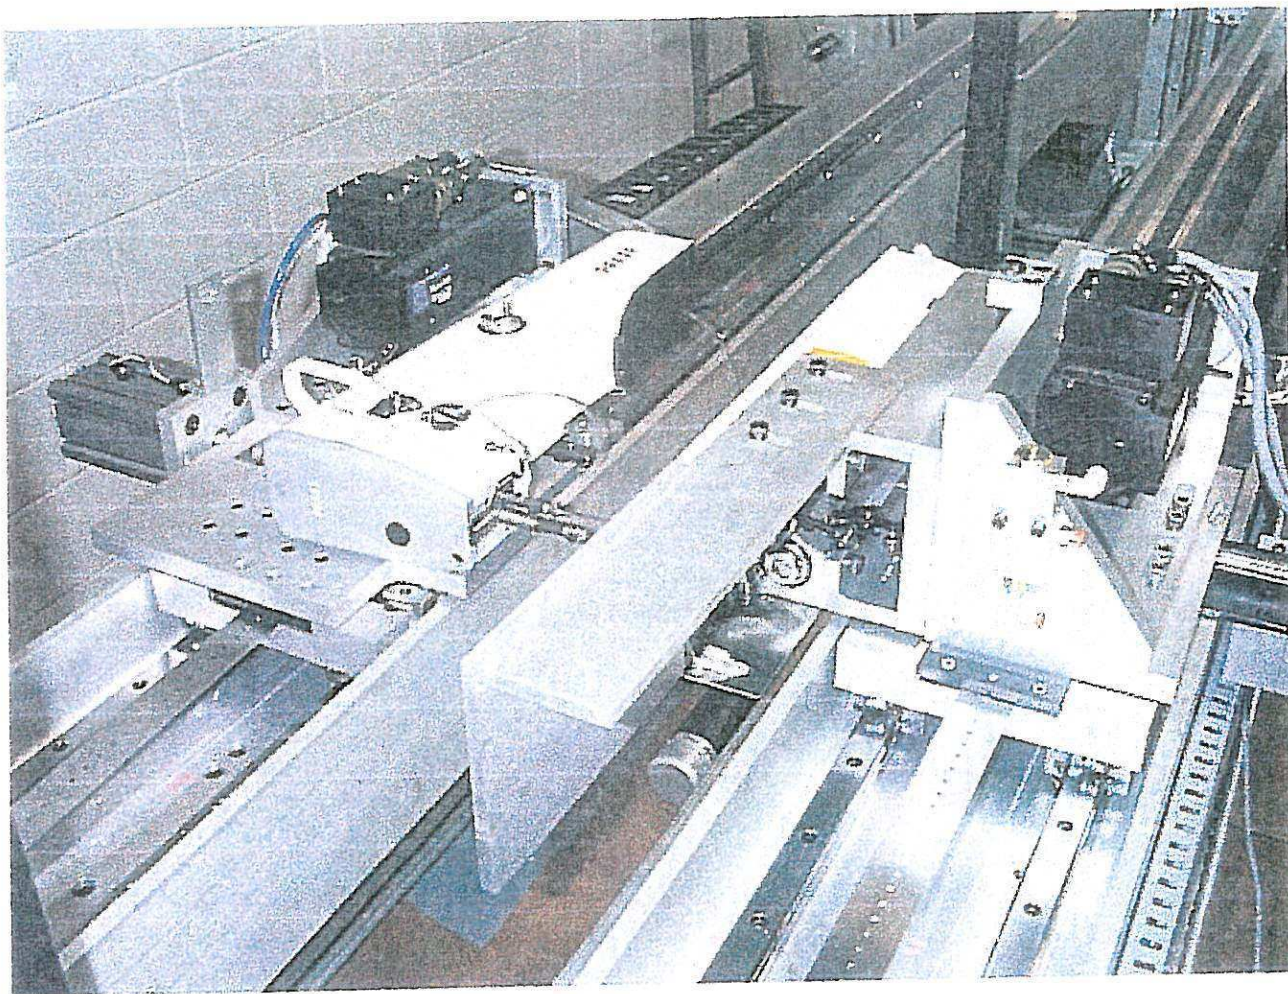
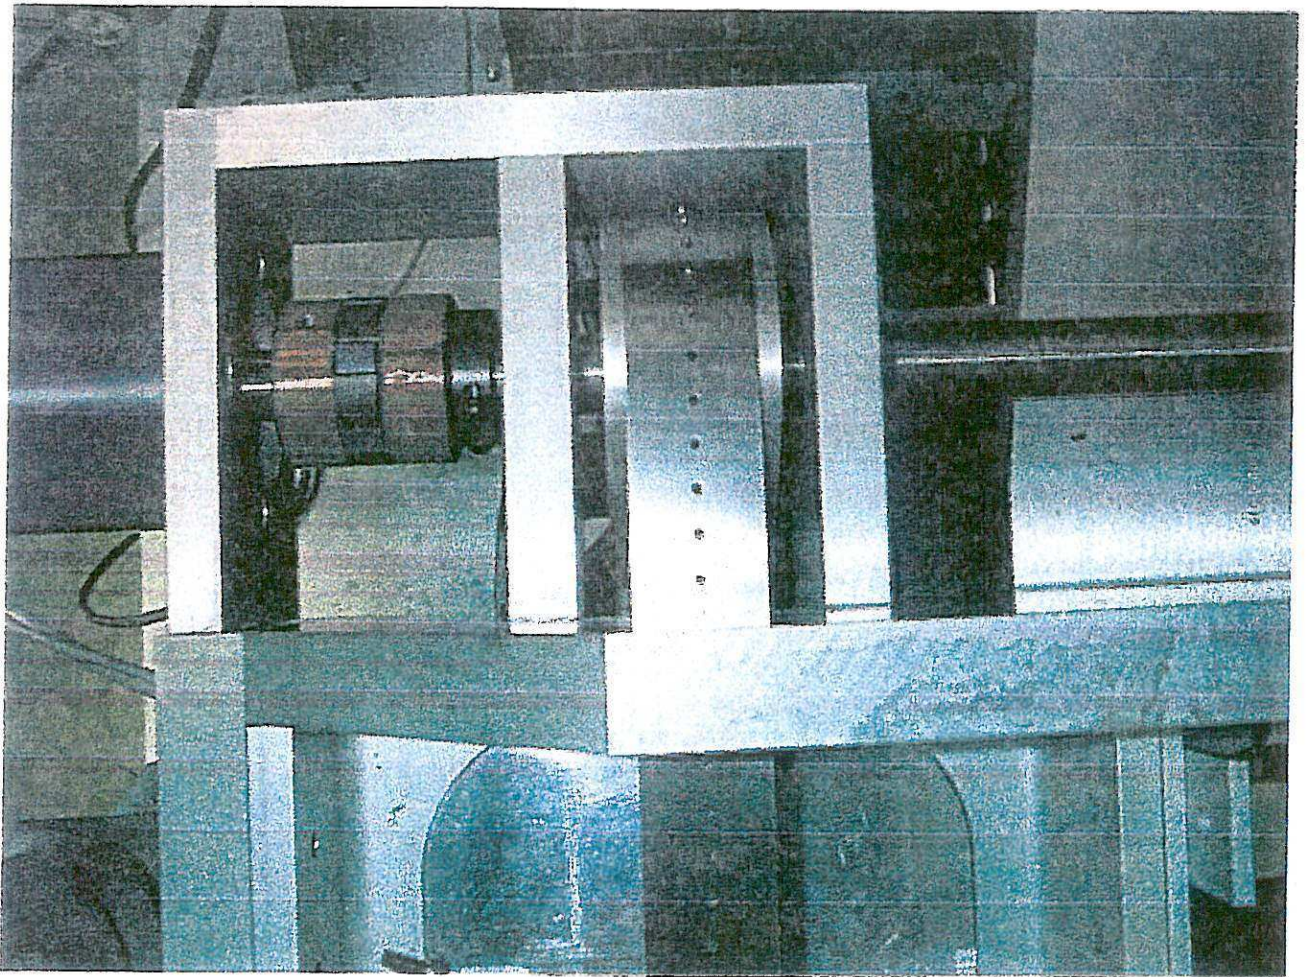
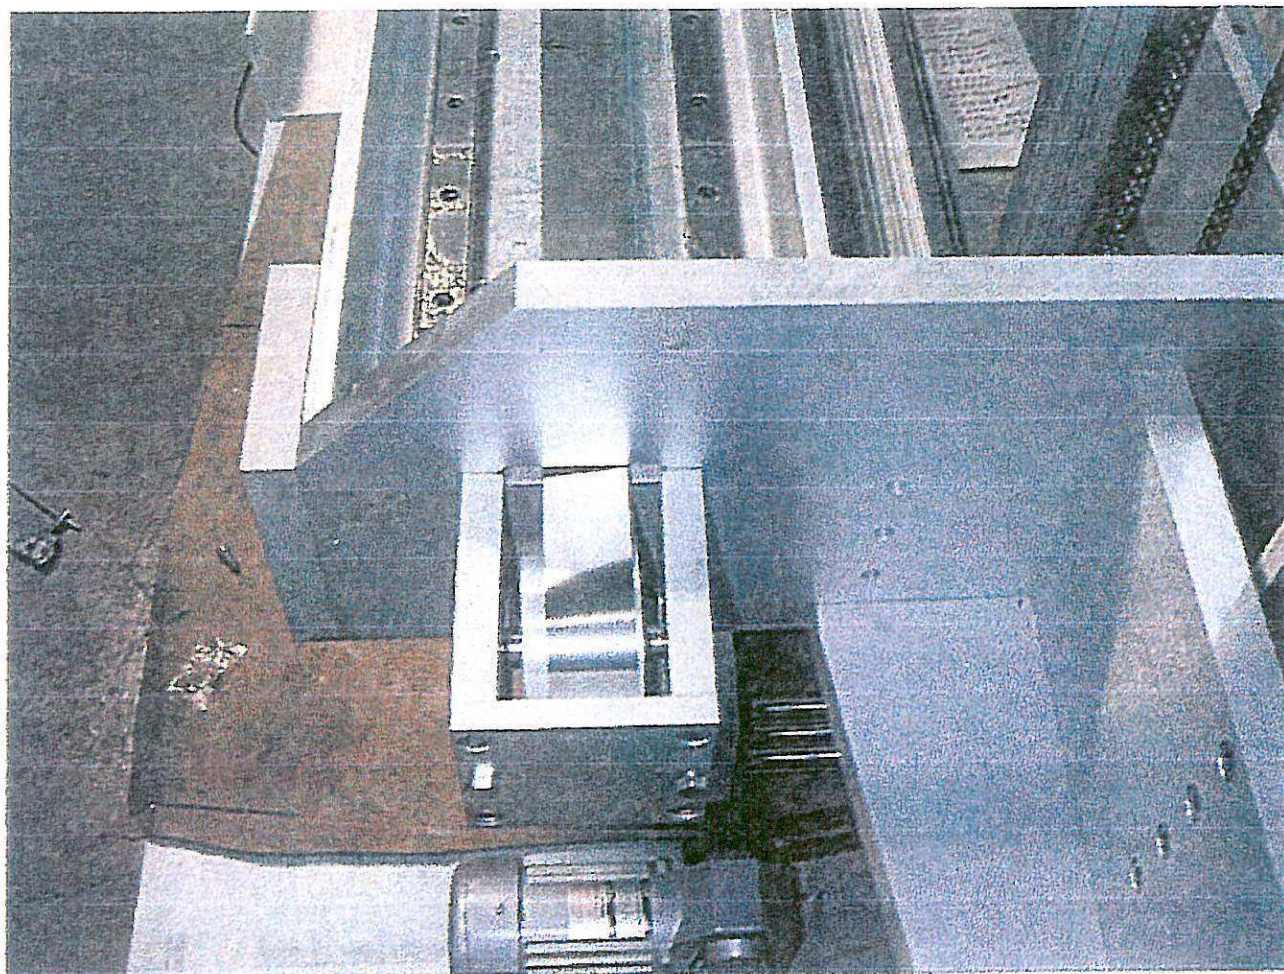
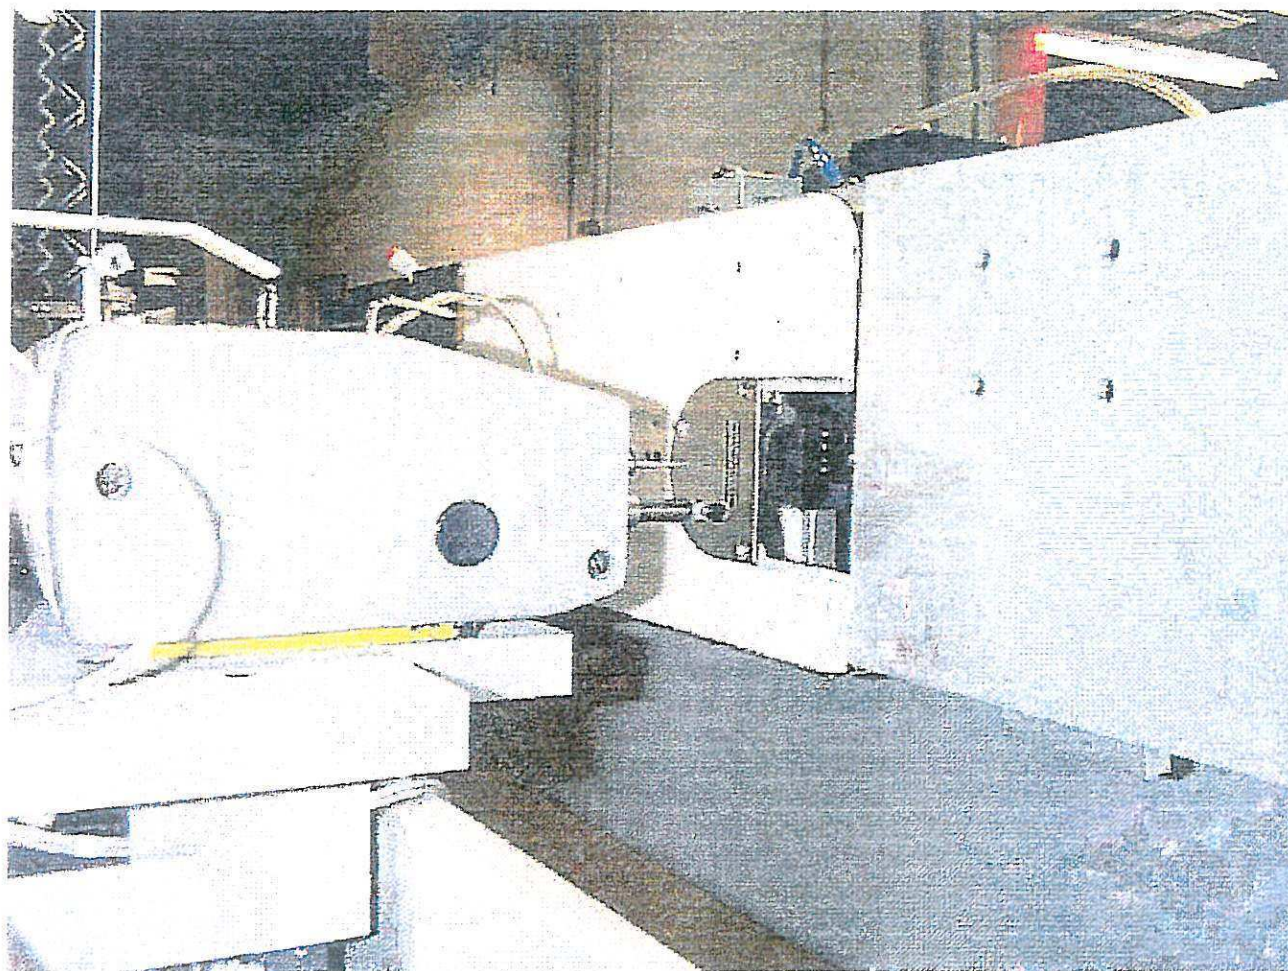

FIG. 7A
FIG. 7C
FIG. 7B
FIG. 7D
THE FOLLOWING PROCEDURE WILL INVOLVE ACCURATE TENSIONING AND ALIGNING OF STEEL TIMING BELTS. ON A COMMON DRIVE, THE UNIT LOAD LEVEL AND EQUAL TENSIONING BETWEEN TWO STEEL TIMING BELTS ARE THE MOST IMPORTANT VARIABLES WITH RESPECT TO MECHANICALLY SLAVING SEW HEAD ASSEMBLY TO SEW BASE ASSEMBLY, SEE FIG. 7A. THIS DESIGN ENSURES THE SYSTEM TO BE WITHIN  $\pm 0.001$  IN. DURING NORMAL ACCELERATION AND DECELERATION MOTION. FURTHERMORE, ANOTHER IMPORTANT VARIABLE IS ALIGNMENT OF CENTER LINE OF STEEL BELT TO IDLER PULLEY CENTER LINE, SEE FIG. 7B AND 7C. FOR TENSIONING LAYOUT, SEE FIG. 7D.
- 1- INSTALLING NEW STEEL BELT REQUIRES THE INSERTION OF THE PUNCHED HOLES SECTION OF BELT INTO RIGHT SIDE OF SEW HEAD ASSEMBLY. MAKE USE OF TWO 1/4-20 x 3/4 SHCS AND ONE 6-32 x 1/2 SHCS TO COUPLE BELT TO SADDLE PLATE. SEE FIG. 7A.
- 2- FEED THE STEEL BELT OVER THE DRIVE PULLEY IN BETWEEN THE SLOTS MACHINED ON THE SIDE PLATES. ENSURE THAT THE BELT IS FED THROUGH THE TOP SLOT FIRST, THEN OVER THE TOOTHED PULLEY; FINALLY, THROUGH BOTTOM SLOT. THEN FEED THE BELT THROUGH OTHER END BOTTOM SLOT, OVER THE IDLER PULLEY AND THROUGH TOP SLOT. INSERT THE NON-HOLE PUNCHED END INTO LEFT HAND SIDE OF SEW HEAD ASSEMBLY. SEE FIG. 7B AND 7C. NOTE THAT BOTH STEEL BELTS HAVE AN ARROW MARK ON THEM. THESE ARROWS MUST POINT TO SAME DIRECTION. THE TWO SIDES OF A STEEL BELT ARE NOT EQUAL IN LENGTH DUE TO HAVING A PROFILE OF A CONE AND NOT A PERFECT CYLINDER.
- 3- BEFORE PERFORMING STEP #2, ENSURE THAT THE IDLER PULLEY'S TWO 5/16-18 HEX HEAD BOLTS ARE COMPLETELY LOOSE. THESE BOLTS ARE DESIGNED FOR TENSIONING THE SYSTEM. ALSO, MAKE SURE THAT BELT CENTER IS IN LINE WITH IDLER PULLEY CENTER. SEE FIG. 7B.
5- AT THIS POINT, ENSURE THAT SEW HEAD ASSEMBLY IS IN LINE WITH SEW BASE ASSEMBLY. THE NEEDLE MUST BE IN THE CENTER OF ALIGNING PLATE HOLE, SEE FIG. 7D. SINCE THE TIMING BELTS ARE LOOSE, CHOOSE ONE OF THE ASSEMBLIES TO MOVE. THE TIMING BELT HOLES SHOULD SKIP OVER THE DRIVE PULLEY TEETH. SEE FIG. 7C.